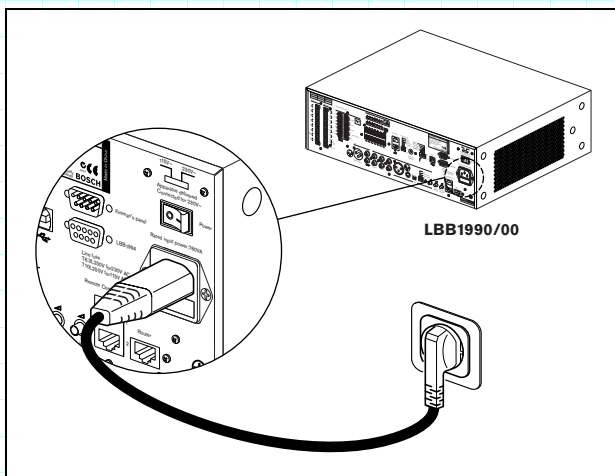

figure 3.17: Connecting the mains cord
- Connect a locally approved mains cord to the voice alarm controller (see figure 3.17).
- Connect the mains cord to a locally approved mains outlet (see figure 3.17).